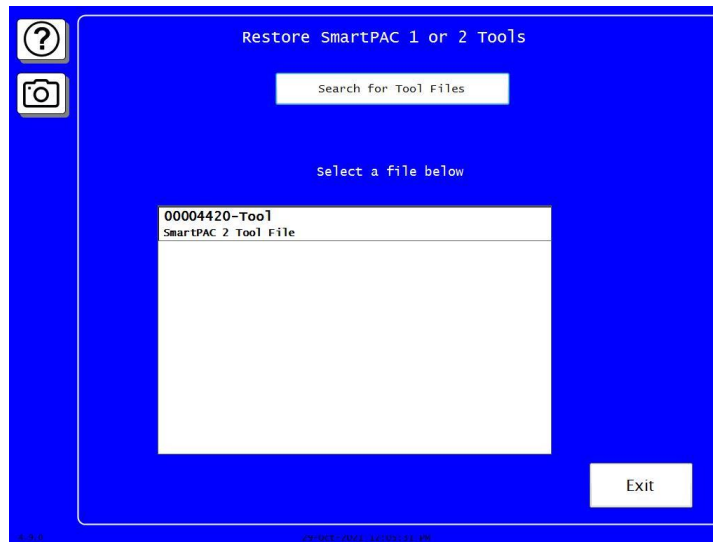

Figure 15. Restore SmartPAC 1 or 2 Tools Menu – Search for Tool Files
2. Press the “Restore SmartPAC1 or 2 Tools” button, a search for tool files window will open (see Figure 15).